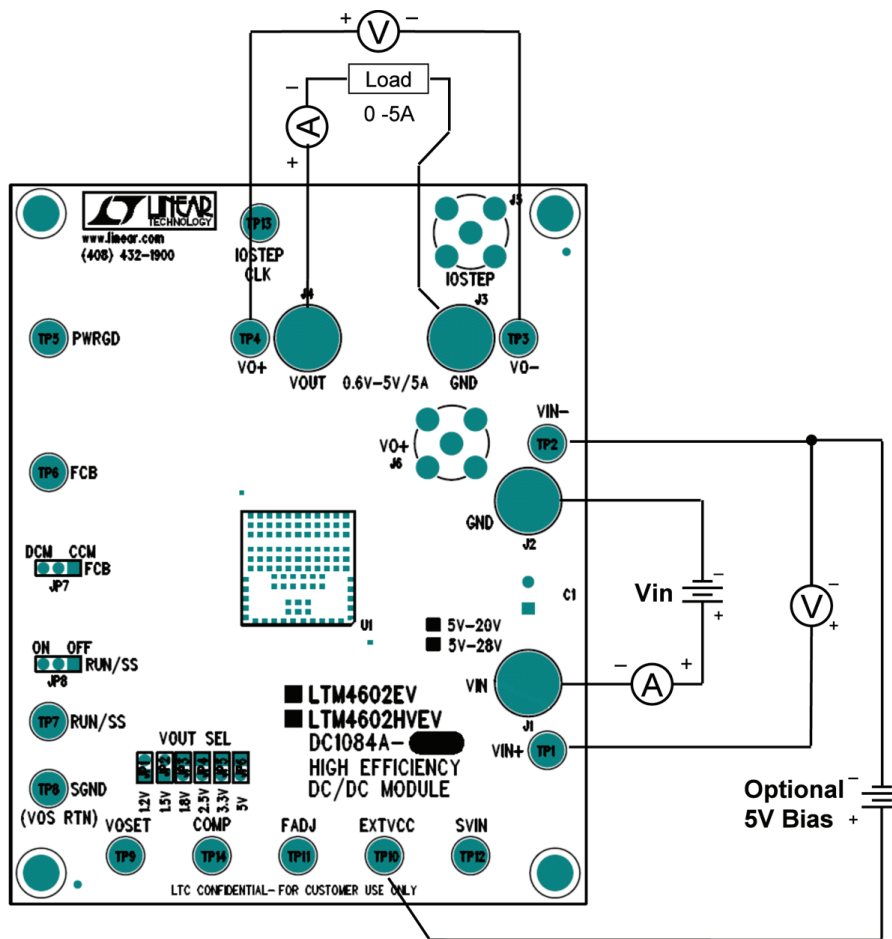

Figure 1. Test Setup of DC1084A-A (EXTV_{CC} Bias Supply is Optional)
Demonstration circuit DC1084A-A is an easy way to evaluate the performance of the LTM4602EV. Please refer to Figure 1 for proper measurement equipment setup and follow the procedure below:
2. With power off, preset the load to 0A and V_{IN} supply to be less than 20V. Connect the input power supply, load, optional 5V bias supply and meters as shown in Figure 1. The optional 5V bias supply must be off anytime the supply to V_{IN} is turned off.